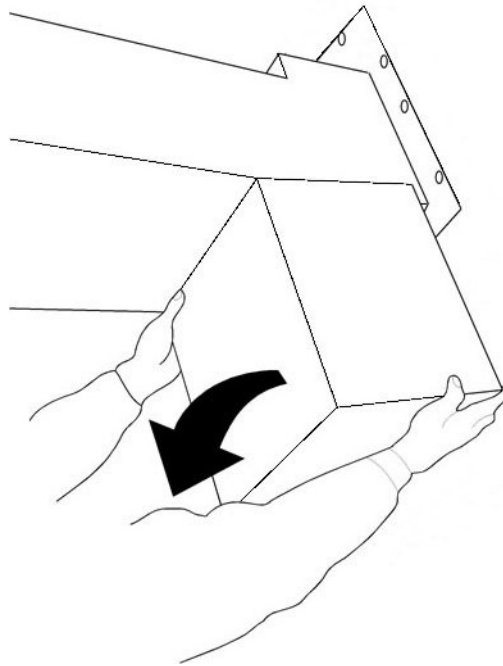

Fig. 5-16 Removing the motor safety cover
4. Undo motor safety cover and lift off as shown in Figure 5-16.